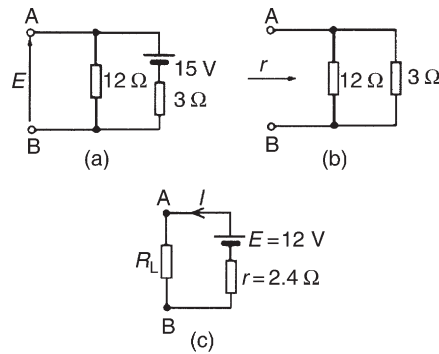

Figure 13.86
- (i) Resistance  $R_L$  is removed from the circuit as shown in Fig. 13.86(a)
- (iii) Removing the source of e.m.f. gives the circuit of Fig. 13.86(b), from which, resistance,
- (iv) The equivalent Thévenin's circuit supplying terminals  $AB$  is shown in Fig. 13.86(c), from which,